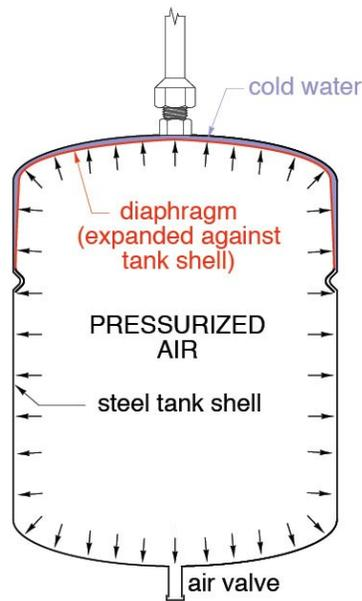

Figure 2
Step 2: Use **Formula 1** to determine the required air-side pressure required in the expansion tank to ensure the diaphragm is fully expanded against the tank shell when the fluid in the system is cold (as shown in **Figure 2**).